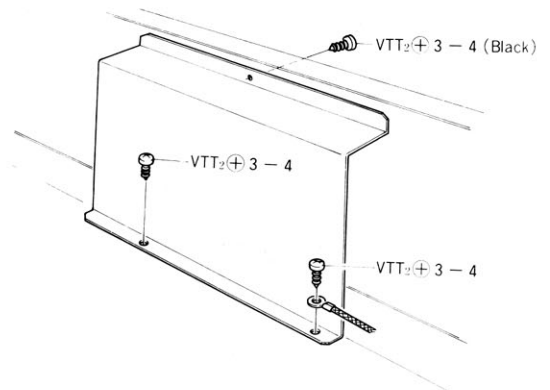

Fig. 7
- 1) Remove 3 screws and remove the shieldplate. (Refer to Fig. 7)